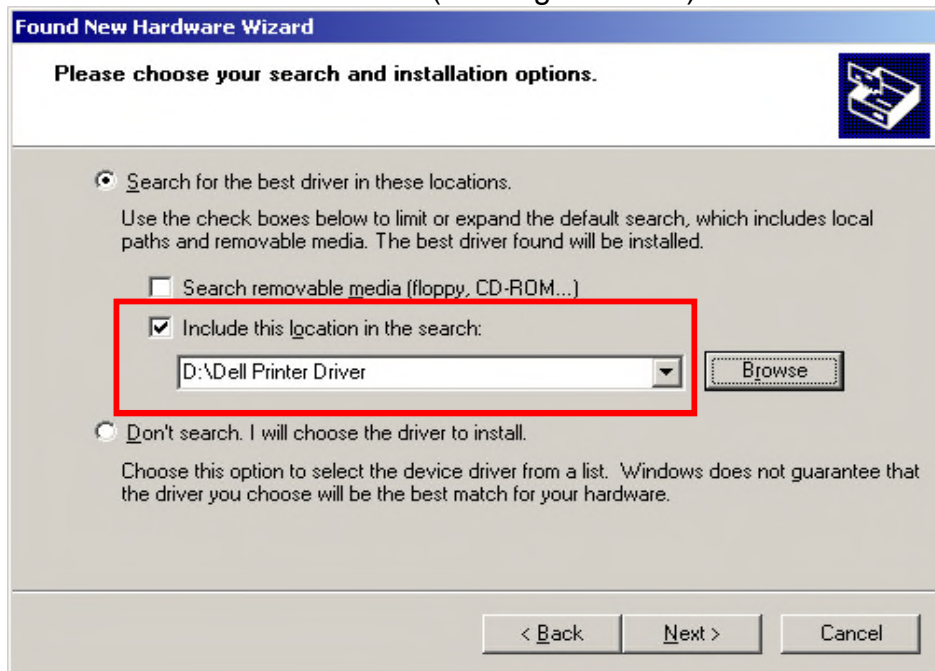

Figure 10.14 – Search for Driver in Specific Locations
- 9) Double click the Devices and Printers Icon as shown in Figure 10.14 below.